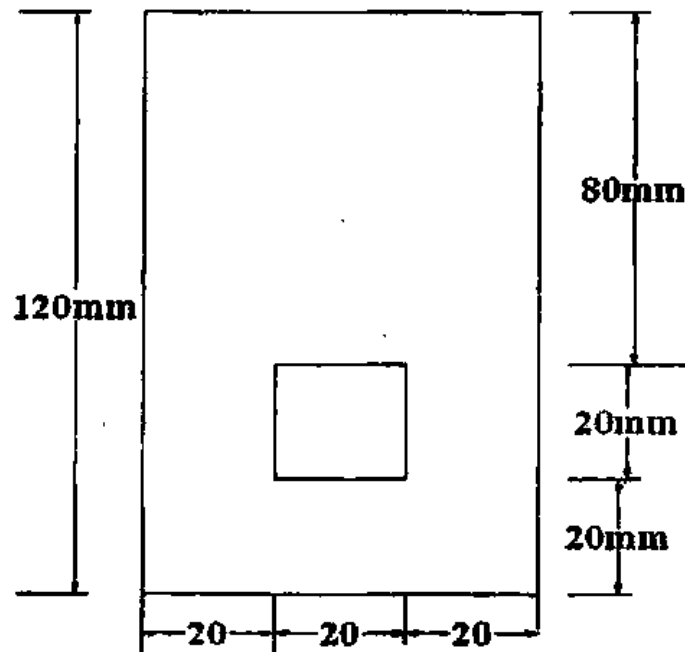

Fig. 2
- (b) Maximum bending moment of simply supported beam is 10 kNm. The cross section of the beam is as shown in Fig. 2. Find the maximum bending stress in tension and compression. [6]